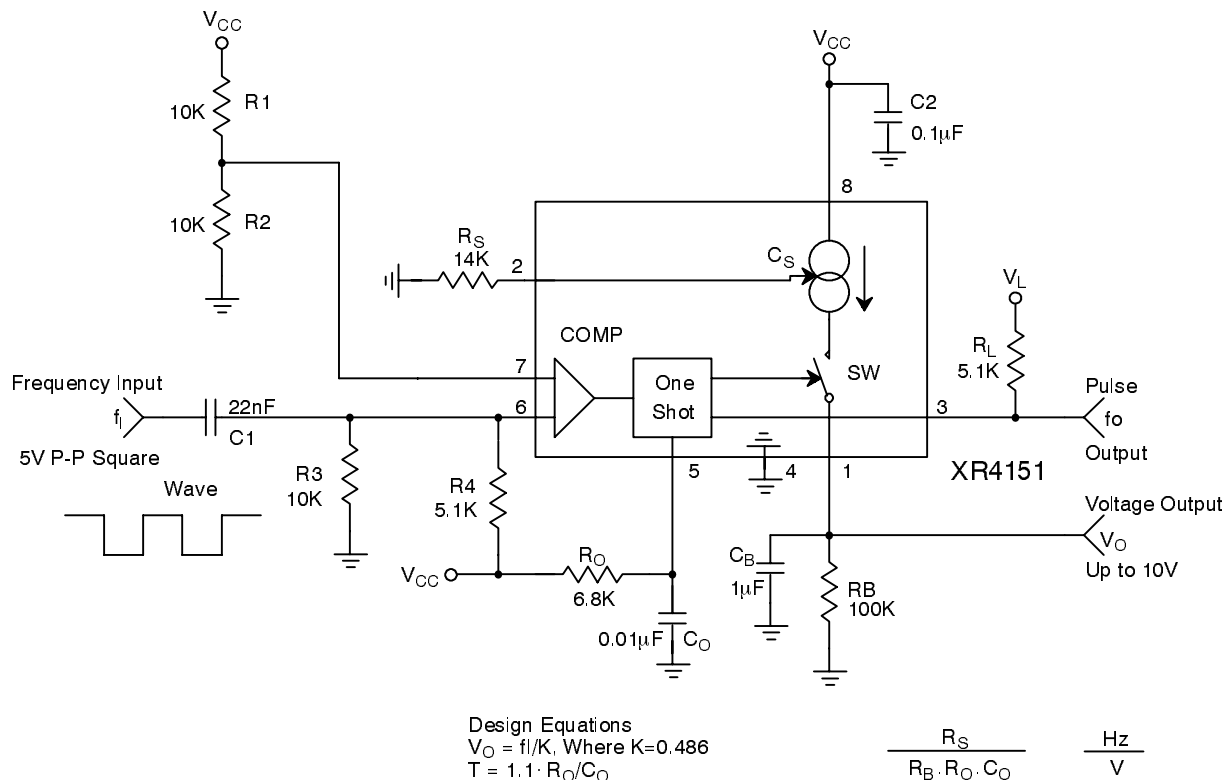

Figure 4. Frequency to Voltage Converter
The XR4151 can be used as a frequency-to-voltage converter. *Figure 4* shows the single-supply FVC configuration. With no signal applied, the resistor bias networks tied to pins 6 and 7 hold the input comparator in the off state. A negative going pulse applied to pin 6 (or positive pulse to pin 7) will cause the comparator to fire the one-shot. For proper operation, the pulse width must be less than the period of the one-shot, $T = 1.1 R_O C_O$. For a 5Vpp square-wave input the differentiator network formed by the input coupling capacitor and the resistor bias network will provide pulses which correctly trigger the one-shot. An external voltage comparator can be used to “square-up” sinusoidal input signals before they are applied to the XR4151. Also, the component values for the input signal differentiator and bias network can be altered to accommodate square waves with different
- I. Design a precision VFC (from *Figure 4*) with $f_0 = 100kHz$ and $V_{IO} = -10V$.